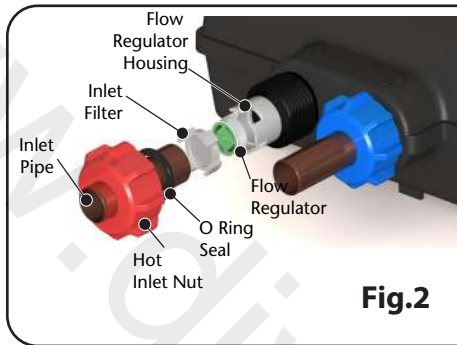

Fig.2
**Combination boilers are not always able to supply an adequate flow rate of hot water, particularly in winter, Triton recommends fitting a flow regulator (supplied with the Shower) into the Hot inlet of the High Pressure Digital Processor Unit prior to installation. Refer to the table for details (see Fig.2).**